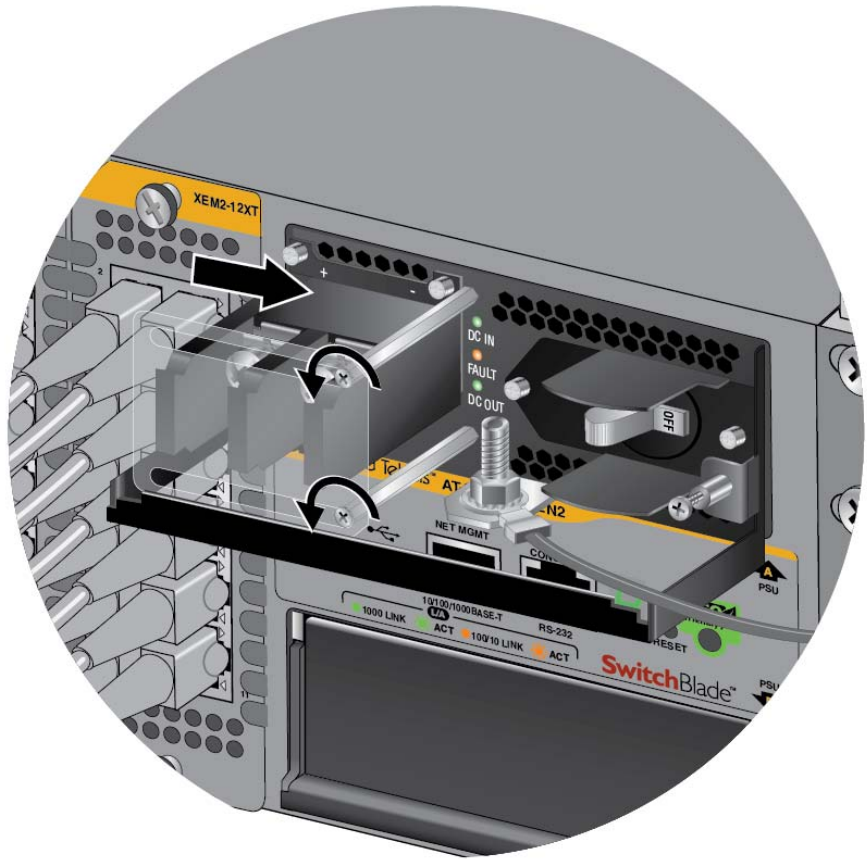

Figure 64. Opening the Plastic Cover
4. Use a #1 Phillips-head screwdriver to loosen the two screws on the plastic cover over the positive and negative terminals on the power supply and slide the cover to the right, as shown in Figure 64 on page 95. You may need to lift the locking handle slightly to access the bottom screw.
2. Use a #1 Phillips-head screwdriver to loosen the two screws on the plastic cover over the positive and negative terminals on the power supply and slide the cover to the right, as shown in Figure 64 on page 95. You may need to lift the locking handle slightly to access the bottom screw.